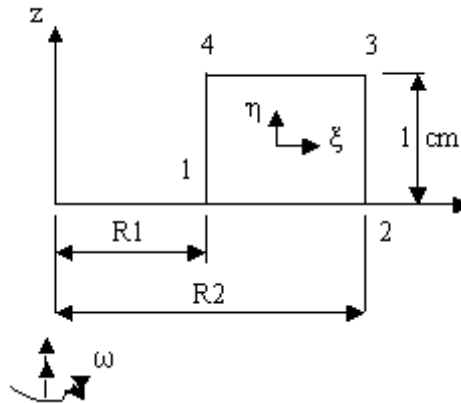

Figure 4
4. Calculate the nodal forces of the four node axisymmetric finite element shown in figure4 when the element is subjected to centrifugal loading. [16]